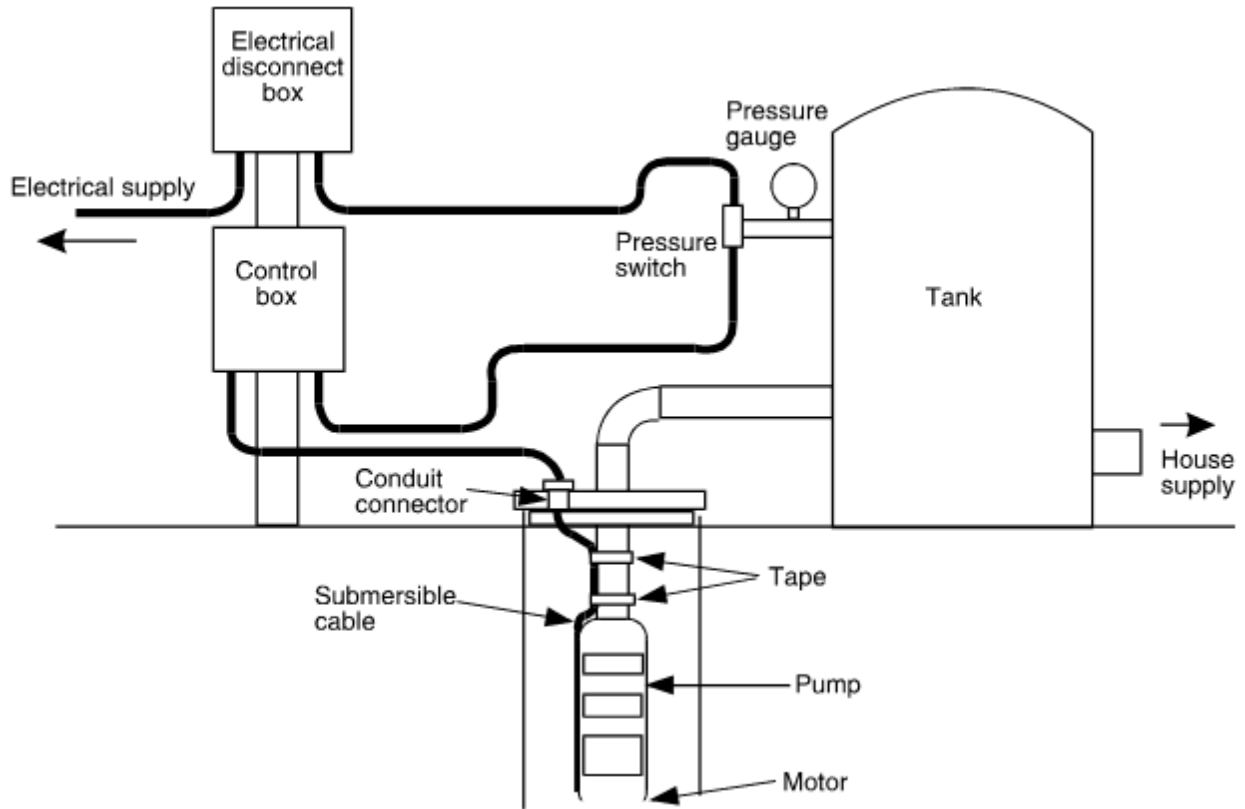

Figure 66. Submersible pump wiring
Surface wiring connections for pumps can vary depending on the type of pump used and the demands of each installation. Jet pumps are supplied with the pressure switch attached to the pump body and the wiring from switch to the motor already completed. For submersible pumps a common configuration of control box, disconnect box, motor and pressure switch connections is shown in Figure 66.
- Figure 66. “Submersible pump wiring” by Camosun College is licensed under a CC BY-NC-SA licence.